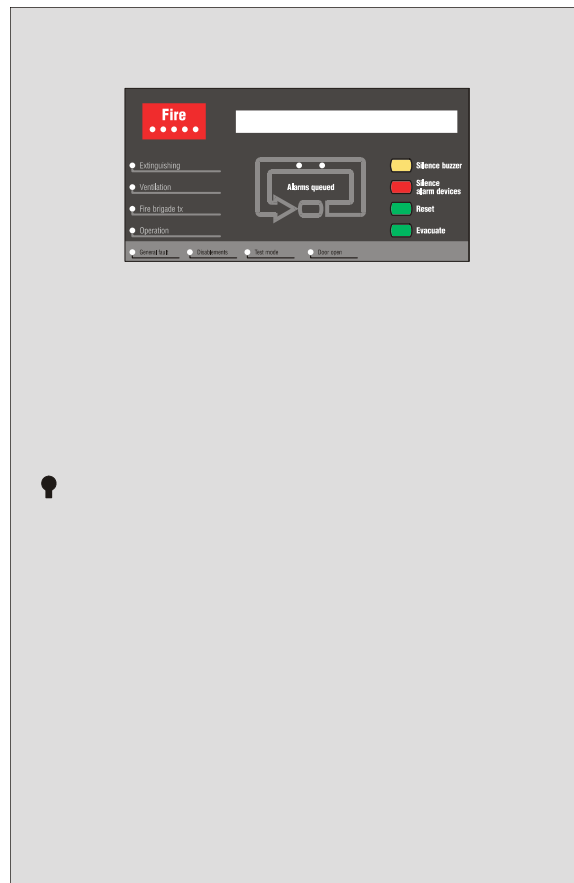

Figure 1. The EBL512 Control Unit (1548 / 1549). The look might vary according to configuration, etc.
The door in 1548 & 1549 has a Plexiglas ahead of the **Fire Brigade Panel (FBP)**, see Figure 1. When the door is open, you can fully see the front, i.e. the **FBP**, and the **Control Panel (CP)**, see Figure 2.